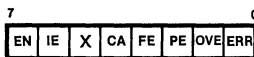

Figure 25. Receiver Control/Status Register
**Transmitter Buffer Empty (BE).** This bit is automatically set to 1 whenever the transmitter buffer becomes empty and cleared to 0 when a character is loaded into the transmit buffer. This bit is in the set condition after a reset. This bit is controlled by the UART control circuitry; it can be read by an I/O read but cannot be set to 1 or cleared to 0 by an I/O write.
**Stop Bits (SB).** This bit determines the number of stop bits added to each asynchronous character sent. The receiver always checks for one stop bit. If this bit is set to 1, two stop bits are automatically appended to the character sent; if this bit is cleared to 0, only one stop bit is appended.
**Transmitter Interrupt Enable (IE).** When this bit is set to 1, interrupt requests are generated whenever the transmitter buffer becomes empty; when this bit is cleared to 0, no requests are made.
**Transmitter Enable (EN).** While this bit is cleared to 0, data is not transmitted and the transmitter output is held marking. Data characters in the process of being transmitted are completely sent if this bit is cleared to 0 after transmission has started.
**Receiver Control/Status Register.** This 8-bit register (Figure 25) specifies the operation of the receiver. The control bits are described below.